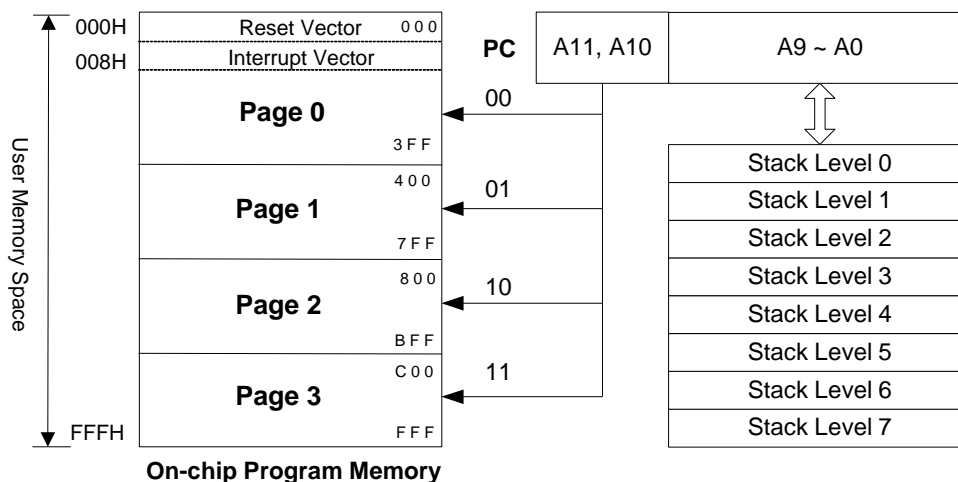

Figure 5-2 Program Counter Organization
- R2 and hardware stacks are 12-bit wide. The structure is depicted in Figure 5-2.